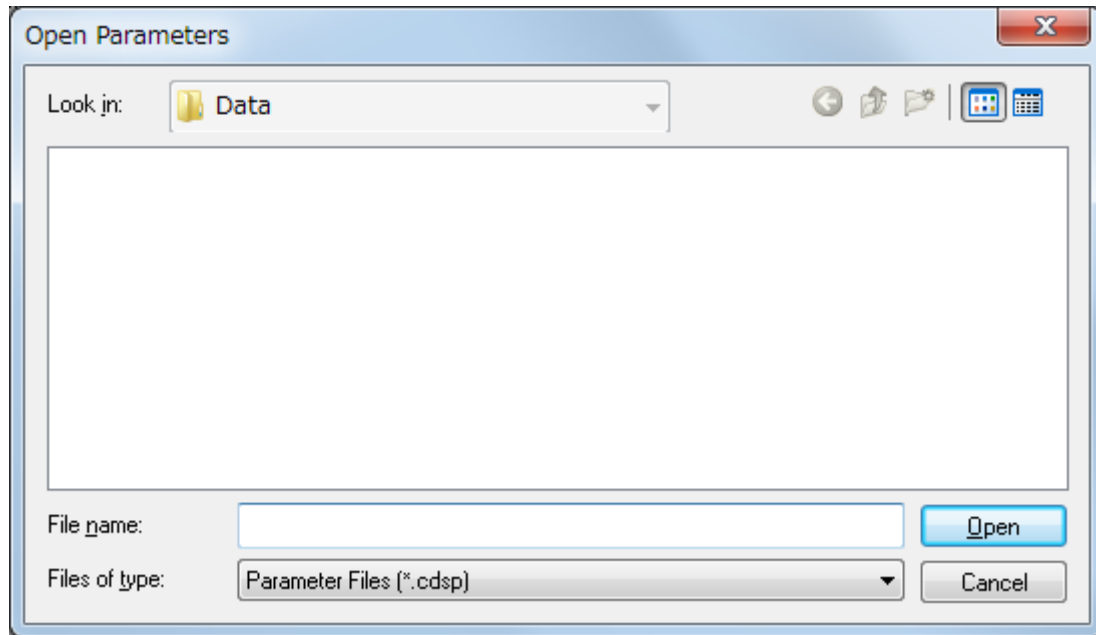

Figure 6.5 [Open Parameters] dialog box
*Note 2: The dialog box in Fig. 6.5 displays only the parameter files for the currently attached accessory.*